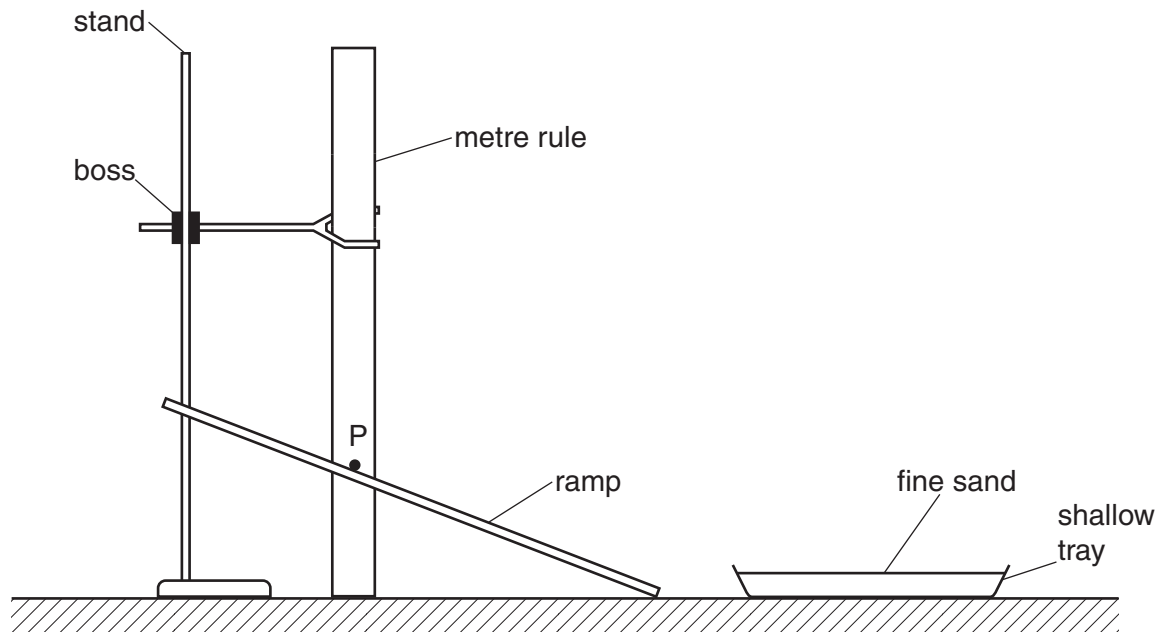

Fig. 3.2
3. The tray should be shallow so that the sides do not impede the motion of the table tennis ball when it rebounds from the ramp. The Supervisor should set up the apparatus as shown in Fig. 3.2. One of the metre rules should be clamped vertically, touching the back edge of the ramp behind point P.
4. At the changeover the Supervisor should ensure that the apparatus is set up as in Fig. 3.2. The surface of the sand should be smooth and the other metre rule should be on the bench.